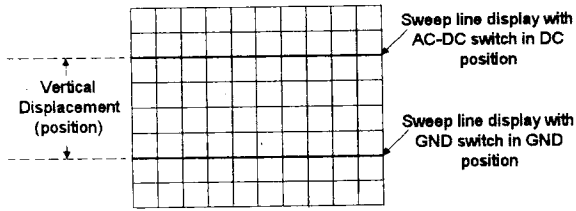
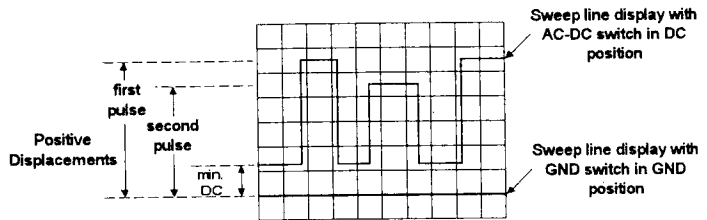

Fig.4. DC voltage measurement
Fig.5. DC level of waveform measurement
5. Press the AC-DC Switch to the DC position and note the sweep line displacement for a DC signal (see Fig. 4) or total signal height to the level where measurement is desired.(see Fig. 5) A vertical displacement of at least 3 divisions is suggested for optimum accuracy of measurement. The reference level may be re-checked by returning the GND switch to the GND position.
6. Calculate the displayed voltage by multiplying the number of divisions of vertical displacement times the setting of the VOLTS/DIV selector times the probe attenuation factor. For example for Fig. 4 if the VOLTS/DIV selector were set to 0.5V/div and the  $\times 10$  probe used, the displayed voltage would be  $5 \text{ DIV} \times 0.5\text{V/div} \times 10$  (probe factor) = 25 volts